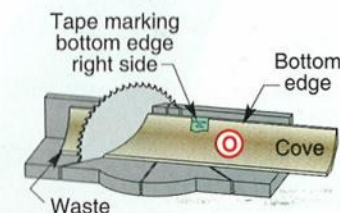

Fig. 9
7 CUT THE COVE FRONT (N) AND OPPOSING COVE SIDES (O) using the non-compound cutting method in **Figure 9**. This simple approach requires that you squarely rest the bottom of the molding against the fence and the top of the molding on the miter saw table. (See **Photo J**.) To do this effectively, place a molding retainer strip in front of the molding as it rests in its angled position against the fence. This prevents the workpiece from slipping during the cut. Note, too, that when cutting the cove front (N), you'll need to sneak up on its exact length, ensuring that the short ends align with the cabinet corners. Cut the sides long at first for easy trimming of the 90° ends later. Mark all pieces and edges to avoid confusion.